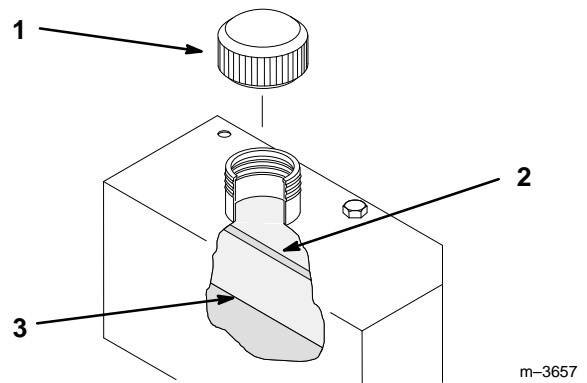

Figure 37
2. Clean area around filler neck of hydraulic tank (Fig. 37).
3. Remove cap from filler neck and look inside to check fluid level. Fluid level should be above the baffle inside the tank (Fig. 37).
4. If level is low, add fluid to raise level to above the baffle (Fig. 37).